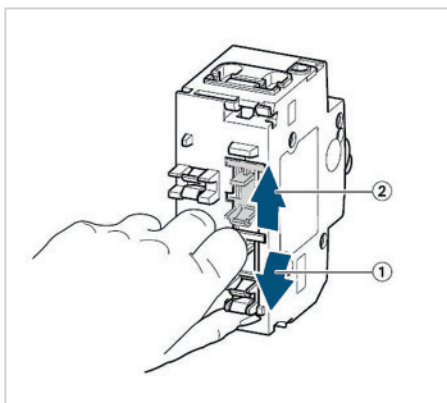

Fig.20: Assembly of an SMISSLINE TP device
- First: Lift contact gate (Fig.20)
- Second: Bring plug contacts to required position (L1, L2 or L3) (Fig.20)